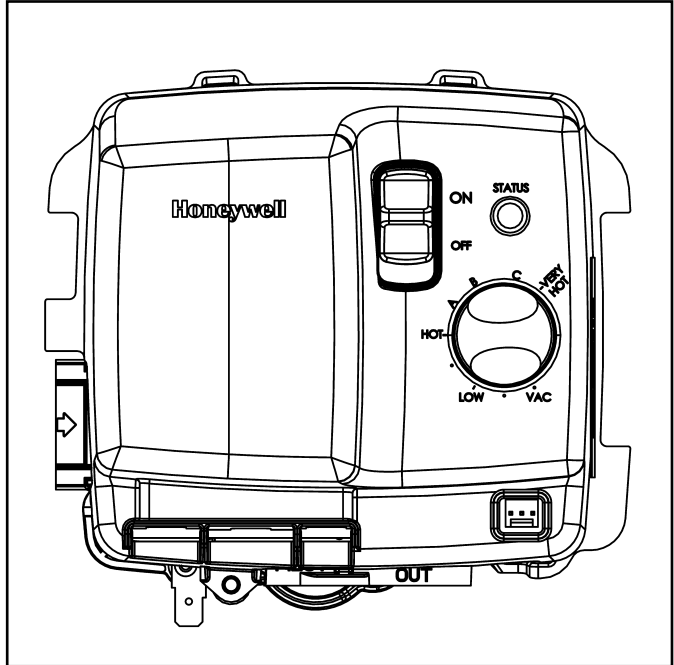

Figure 3
The water heater temperature adjusting dial (see Figure 3) was factory set at the lowest temperature; all the way counter-clockwise to the mechanical stop, unless specified differently by provincial or state regulations. It is adjustable and must be reset to the desired temperature setting to reduce the risk of scald injury. Turning the dial clockwise will increase the temperature and counter-clockwise will reduce the temperature. The HOT marking on the Honeywell gas valve is indicative of approximately 120°F (49°C) and is the preferred starting point. Some states have a requirement for a lower setting. Should overheating occur or the gas supply fails to shut off, turn "OFF" the manual gas control valve to the water heater.
1. Set the gas control valve/thermostat to its lowest setting by turning the knob counter-clockwise to the VAC point (see Figure 3).
2. Turn gas control switch to the "OFF" position and turn "OFF" the gas supply to the unit (see Figure 3).
8. Turn the gas control switch to the "ON" position (see Figure 3).
9. Turn the gas control switch to the "ON" position (see Figure 3).